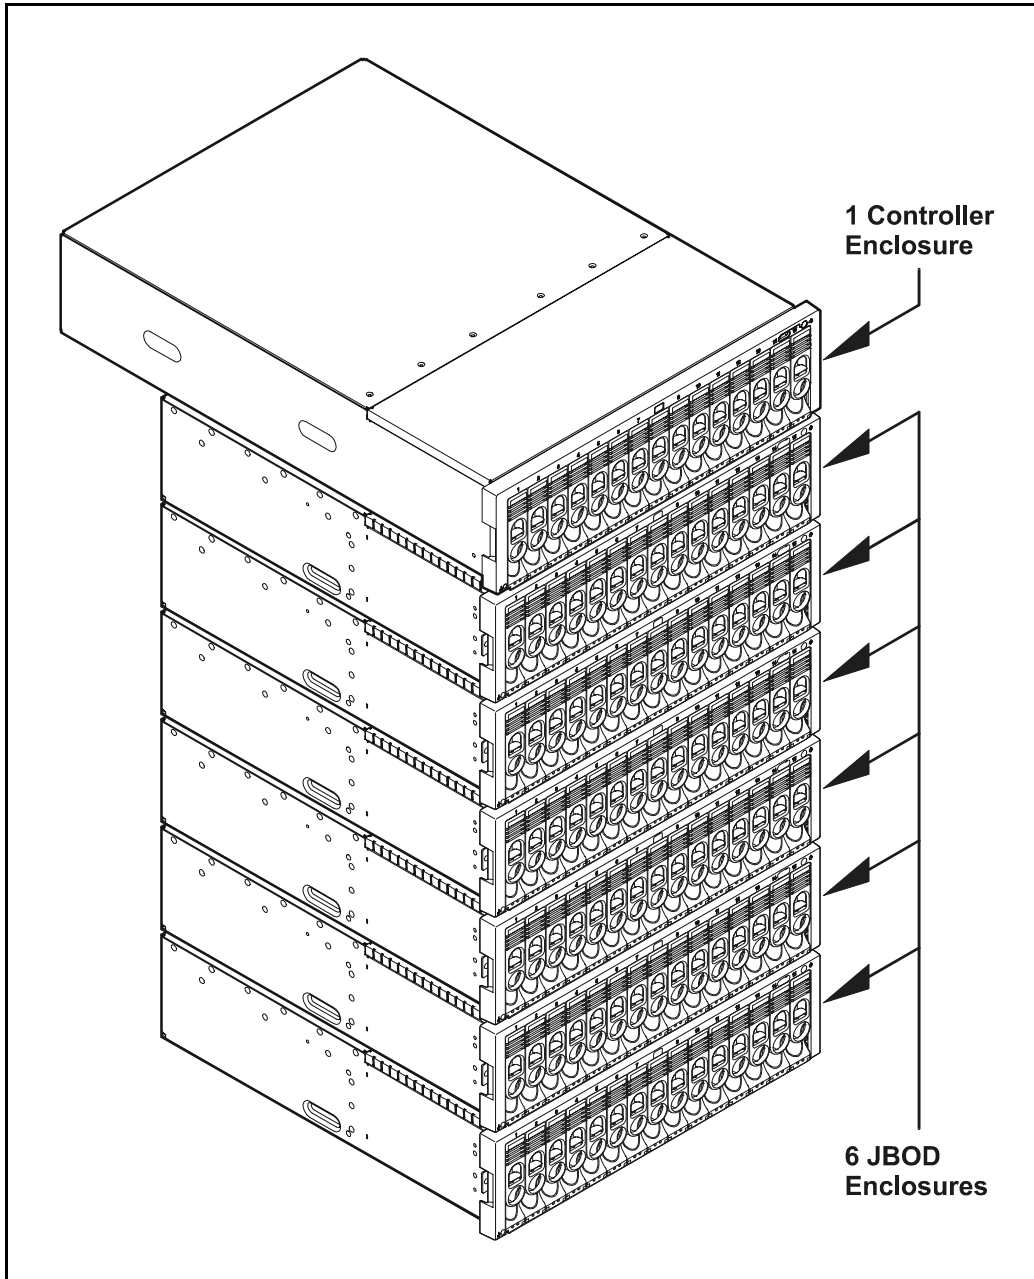

Figure 1 VA 7400 Maximum Configuration
The HP SureStore Virtual Arrays (VA) 7100 and 7400 are Fibre Channel disk arrays that feature scalability, high performance, and advanced data protection. The VA 7100 includes only one “Virtual Array” or controller enclosure. The VA 7400 includes one controller enclosure and up to six “Disk System” enclosures or JBOD (Just a Bunch of Disks) enclosures (see Figure 1). Table 1 shows the virtual array product configurations.